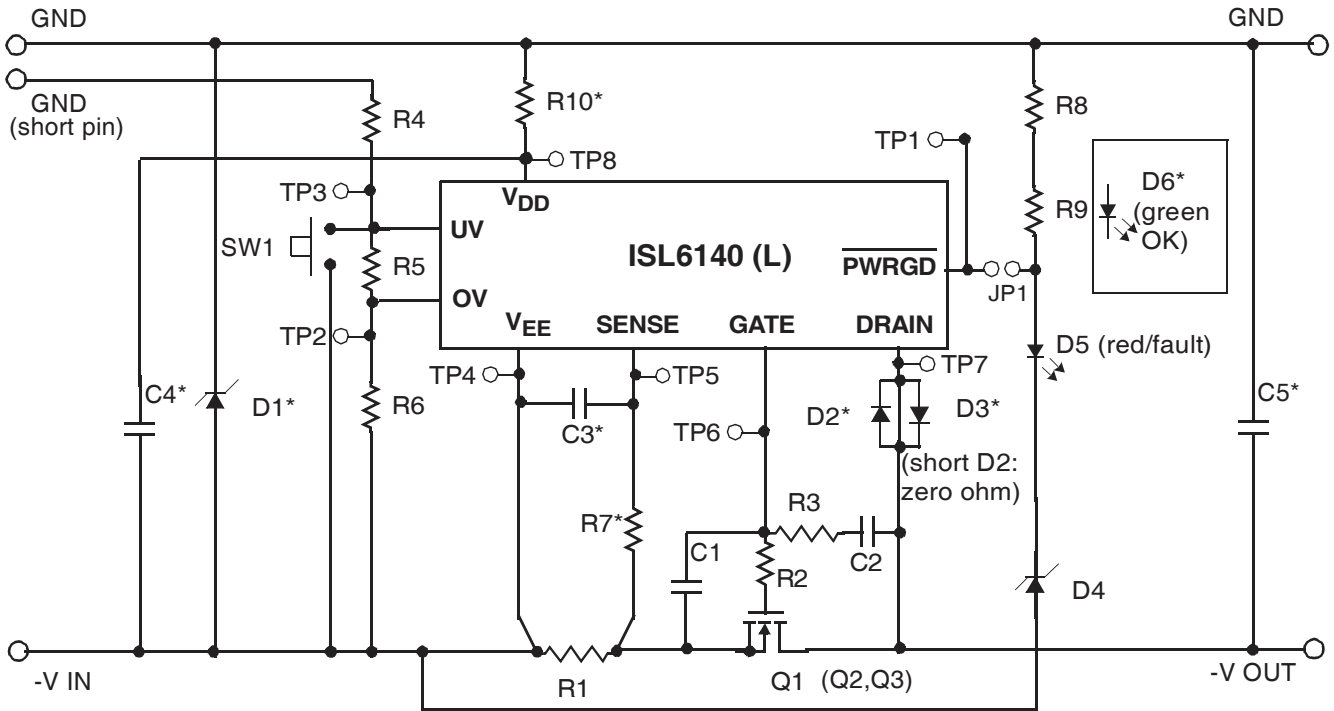

FIGURE 7. CONTROL BOARD SCHEMATIC
**Optional Components (Same for both A and B channels; See Fig. 7)**